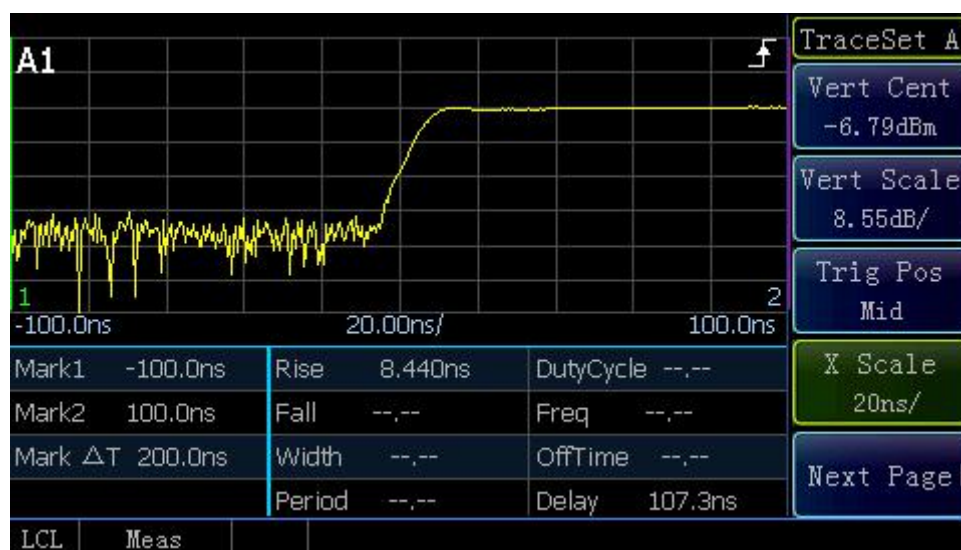

Fig.3.4 Rise time test
- 8) Set [Trace Set] >[X Scale] >[20ns/] to obtain the Rise time of pulse signal as shown in Fig. 3.4;